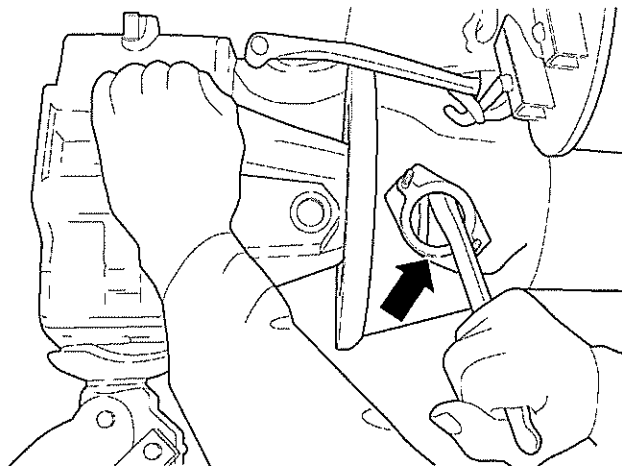

Fig 1 Removing transfer gearbox
- 4.8 Pull transfer gearbox and all wheel drive actuator housing approximately 120-130 mm out of chassis support tube flange. If necessary remove all wheel drive pneumatic actuator and press torque tube off transfer gearbox splines using tyre lever inserted through housing opening. Extract transfer gearbox with all wheel drive actuator housing from support tube flange and lower (see Fig 1).